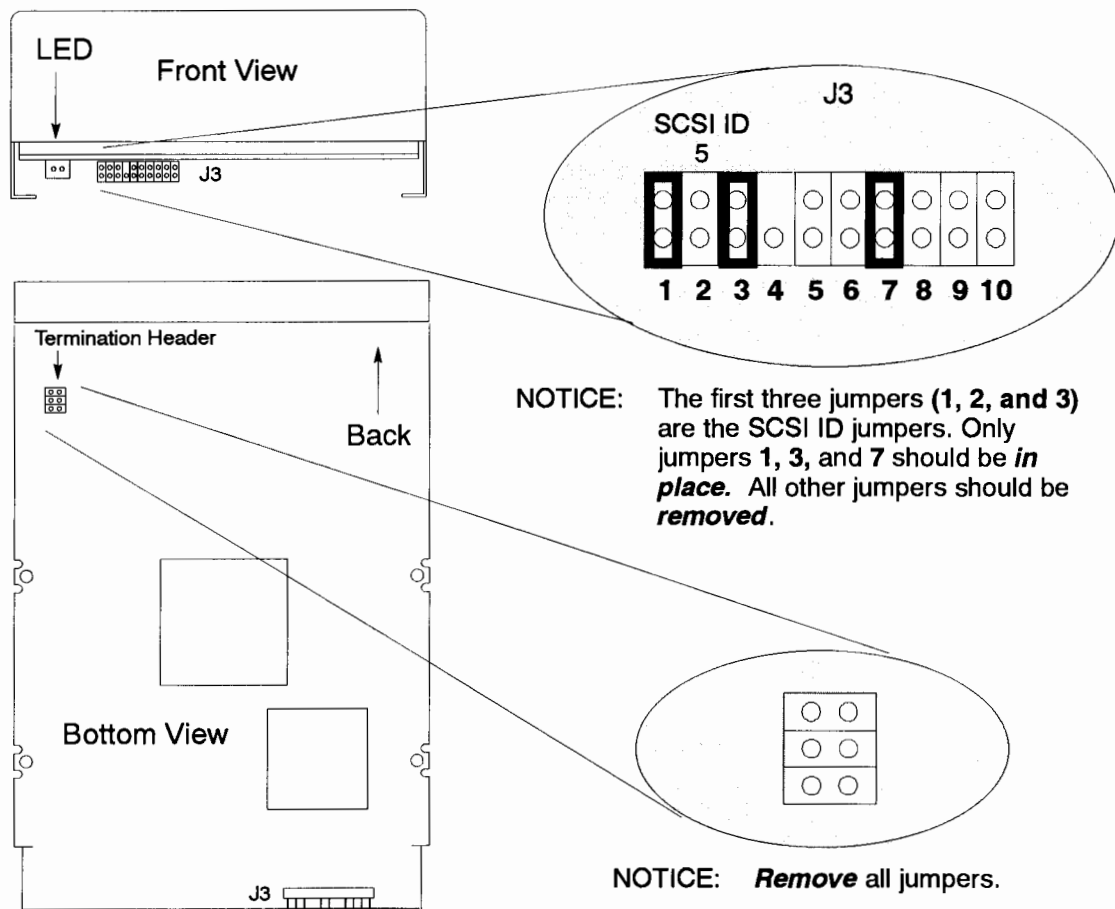

Figure B-37. DEC 1-GB and 2-GB Disk Drive Jumpers
- For a DEC 1-GB or 2-GB drive, refer to Figure B-37.